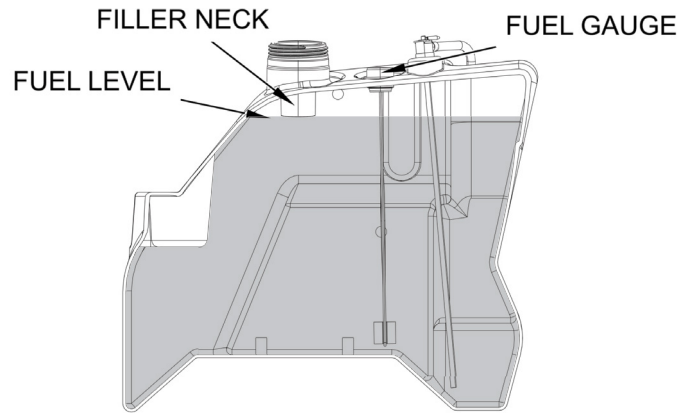

Figure 7-7. Fuel Fill Level
8. Do not fill above the bottom of the fuel tank neck to allow for the expansion of fuel. See Figure 7-7.